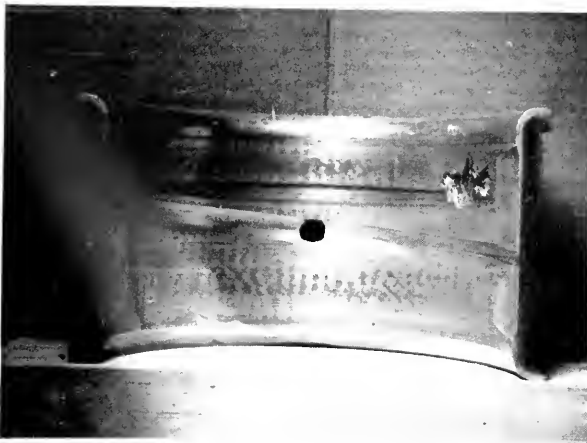

Fig. 1. Cracked bearing showing grooving and pattern of shaft vibration. Upper part unfit for fluid lubrication.
**Wire Resistance Gage:** The electric strain gage went through different stages of development. Its oldest form, as shown in Fig. 1, is based on the change in the value of an electrical resistance of a wire formed by a sliding contact. The contact is rigidly connected to the point at which deflections have to be measured, and the two changing branches of the electrical measuring wire on both sides of the contact form the arms of a Wheatstone Bridge. The change in resistance is recorded as an electric current. This method is still in use for large deflections, such as bending tests on a ship.
Fig. 1 illustrates such a case as evidenced by the regular pounding pattern of glazed spots. Another interesting case is shown in Fig. 2. This bearing contains dovetails. We notice glazed, flattened zones at the dovetails, subdividing the bearing into a number of ring-shaped zones because the lining expanded at the thicker dovetails about twice as much toward the shaft as between the dovetails. This case illustrates the difference between workshop and operating clearance. Obviously such a bearing can work properly only at temperatures near the workshop temperature, where the differences in expansion at the various zones are negligible. The higher the temperature rises, the more there appears a succession of hills and valleys, "rings,"
Provided, a bearing of the type of Fig. 3 is properly calculated, it is rather a "twin" bearing than a grooved one. That is to say: a properly designed and manufactured full bearing (a bush or one consisting of two halves), with or without shims at the separation, has to be machined as an integral unit and as a perfect cylinder with its proper calculated clearance with respect to the shaft. It may be useful to relieve the linings slightly at the separation. At the same place there should be chamfers or "oil pockets" (Figs. 1 and 3). Generally, grooves have no place in a good modern bearing; Fig. 1 is a characteristic bad case. Here the grooves do not improve but seriously impair fluid lubrication. There are two exceptions:
Fig. 1 is a case of utterly preposterous grooving which may well have started the fatigue cracks by inadequate lubrication and overheating. Fig. 2 is a case of wiping by expansion as discussed earlier. Fig. 3 is above all characteristic for bending.
surface and thus is more severe. The glazed spots in Figs. 1 and 3 result from that phenomenon.